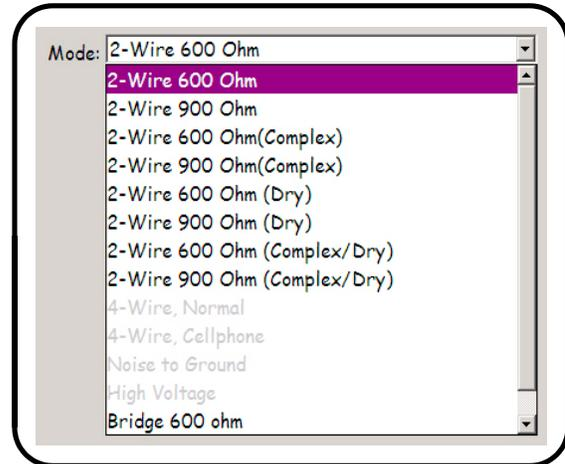

Figure 2 – Select 2-Wire 600 ohm
- c. In the resulting display, locate the "Mode:" window, then click on the corresponding drop down arrow, and select "2-Wire 600 Ohm" as illustrated in *Figure 2*, at right.